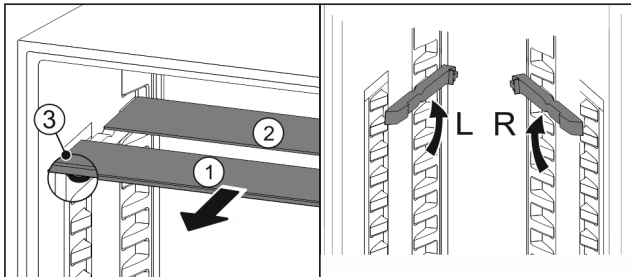

Fig. 189
- Pull the glass panels out Fig. 189 (1) from the front, one at a time.
- The glass panel Fig. 189 (1) and trim strip are at the front.
- The stops Fig. 189 (3) point down.